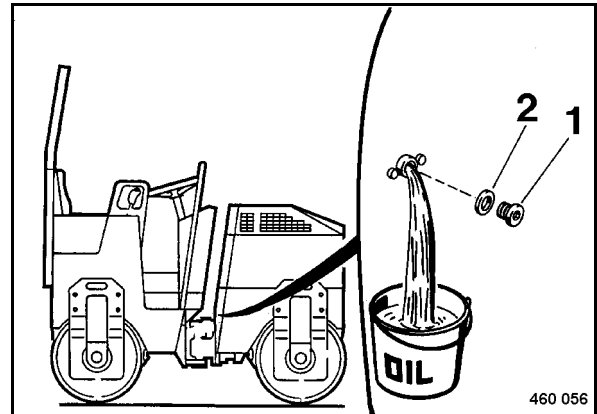

Fig. 94
- Unscrew the drain plug 1 (Fig. 94) and catch all oil running out.
- Screw the drain plug tightly back in with a new sealing ring (2).